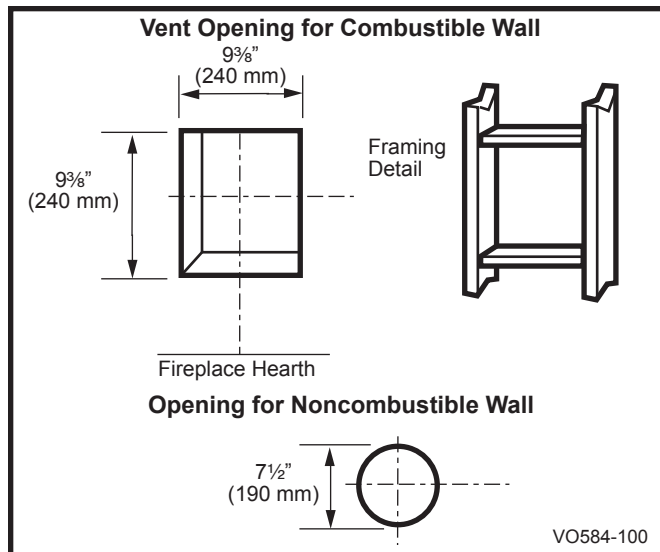

Fig. 33 Locate vent opening on wall.
Locate vent opening on the wall. It may be necessary to first position the fireplace and measure to obtain hole location. Depending on whether the wall is combustible or noncombustible, cut opening to size. (Fig. 33) (For combustible walls first frame in opening.)
Combustible Walls (Fig. 33): Cut a 9 3/8" H x 9 3/8" W (240 x 240 mm) hole through the exterior wall and frame.
Noncombustible Walls (Fig. 33): Hole opening must be 7.5" (190 mm) in diameter.
1. Establish vent hole through the wall. (Fig. 33)